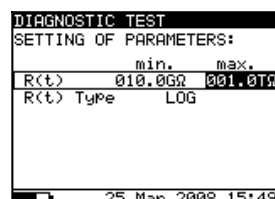

Fig. 19 Set-up menu of the Graph R(t)
- Press the SELECT key to Set-up the parameters of the graph R(t), see the **Fig. 19**. Press the ESC key to return to basic Set-up menu in the Diagnostic Test function.